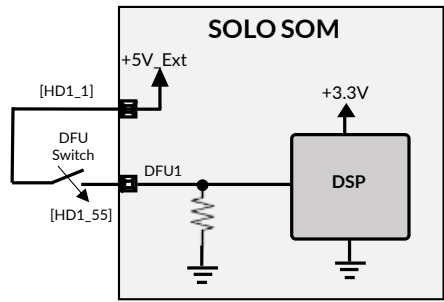

Figure 41. Forced-boot wiring: DFU1 pulled to 3.3 V to enter the bootloader on the next power-up.
- Hold **DFU1** (HD1 pin 55) at **3.3 V**, then power-cycle the module. On the next power-up the module is forced into the bootloader. The wiring is shown in Figure 41.